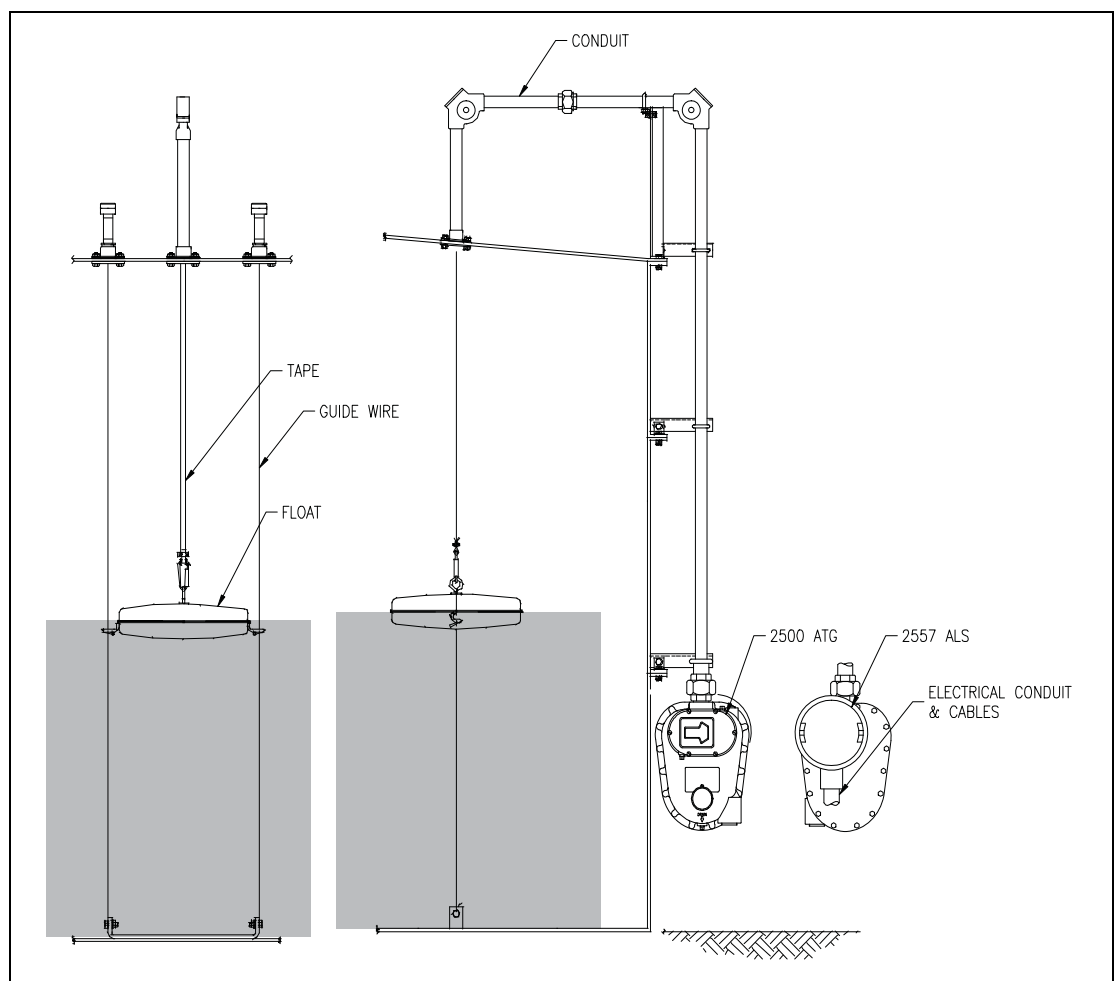
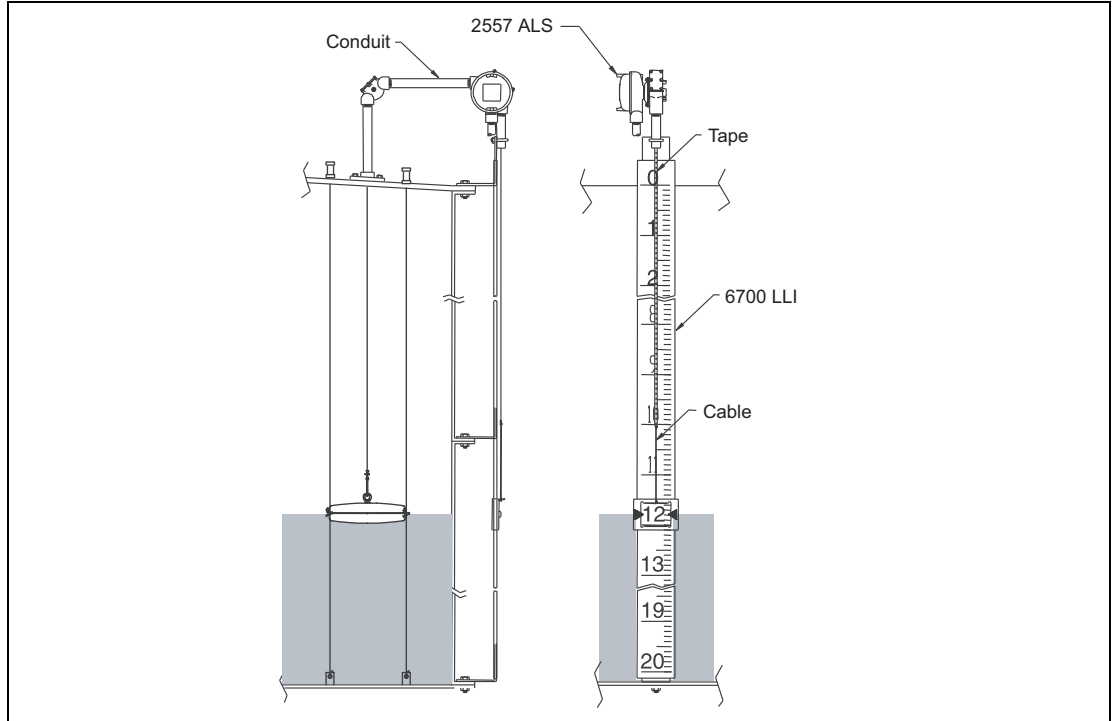

Figure 1-1: 2557 ALS Mounted on the 2500 ATG Diagram
Figure 1-2: 2557 ALS Mounted on the 6700 LLI Diagram
The 2557 ALS is a float and tape driven switch for the indication of alarms or relays. It is a cam-operated switch designed to mount directly to the Varec 2500/2520 Automatic Tank Gauge (ATG), refer to Figure 1-1 or to the Varec 6700 Liquid Level Indicator (LLI), refer to Figure 1-2. The 2557 ALS can be used to activate alarms or relays at any level selected by the user.
The 2557 ALS is suitable for installation on 2500 ATG gaugeheads or on the gaugeheads of other manufacturers. This procedure provides instructions to mount the alarm limit switch on a 2500 ATG, as shown in Figure 1-1 on page 1.
2. There is sufficient space around the mechanical gauge to install the 2557 ALS and accessories (such as the electrical conduit and cabling). Refer to Figure 1-1 on page 1.